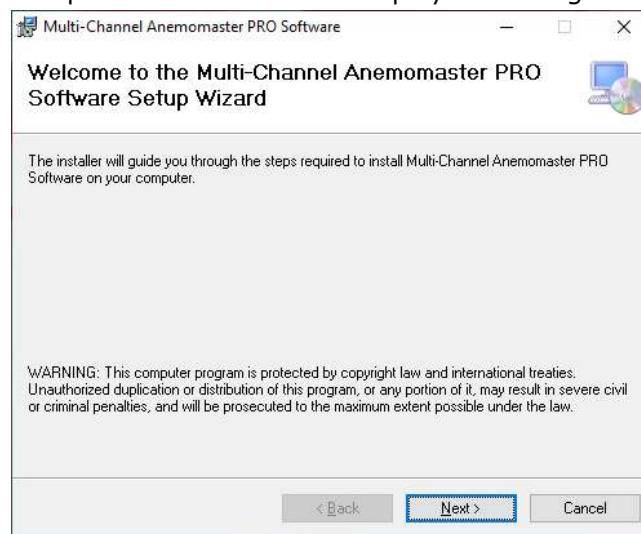

Figure 2-1 Initial Setup Screen
- 3) Double-click the setup file  to display the dialog box as shown in Figure 2-1.